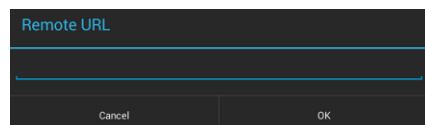

FIG. 26 Remote URL window
2. Press **Remote URL** to enter the URL of the remote profile to use via the on-screen keyboard (FIG. 26):